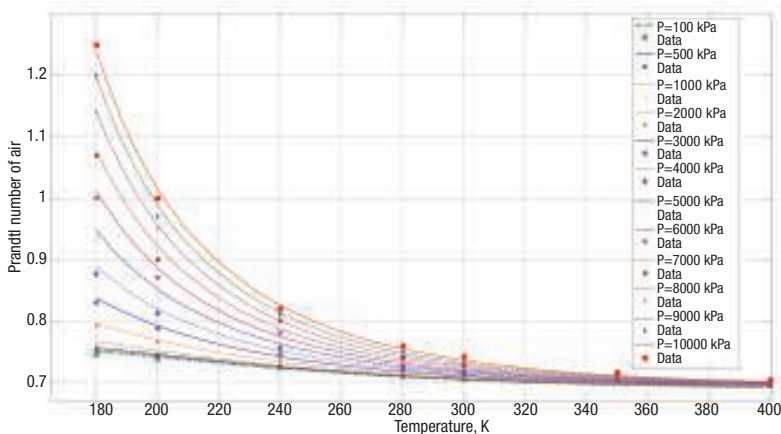
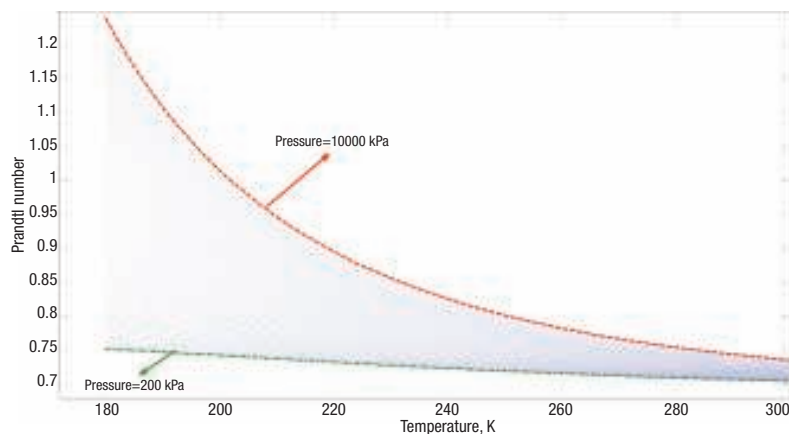

FIGURE 3. A comparison of the Air Prandtl number calculated by Equation (2) with reported data [6] as a function of pressure and temperature
FIGURE 4. This graph shows the behavior of Pr calculated with Equation (2) as a function of pressure and temperature
The empirical correlation. Figure 3 compares Pr values of air calculated from Equations (2–6) as a function of pressure and temperature with the reported data [6]. It is evident from the figure that there is a good agreement between predicted values (for pressures up to 10,000 kPa and temperatures up to 1,000K and the reliable data [6]). Figures 4 and 5 show the behavior of Equation (2) from two different viewpoints. Figures 4 and 5 show that pressure itself has a major effect on the Pr of air at temperatures less than 350K but for air temperatures higher than 350K, pressure does not have a large affect on Pr.